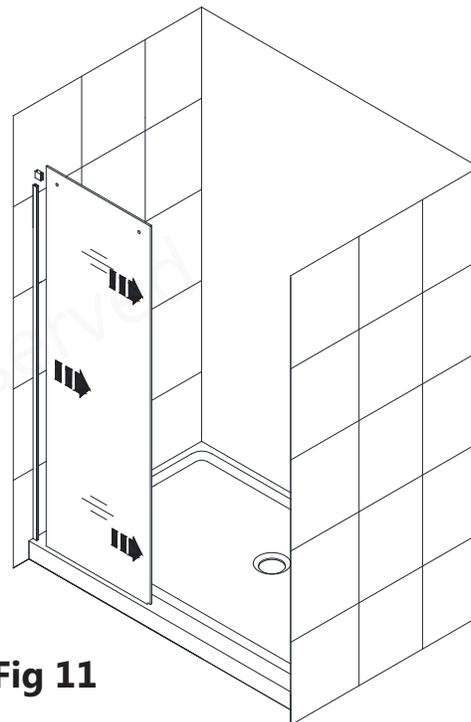

Fig 11
11. Remove the **Stationary Panel Glass (#02)** from the **U-Channel (For Panel Glass) (#01)** and carefully set it aside. **(Fig 11)**